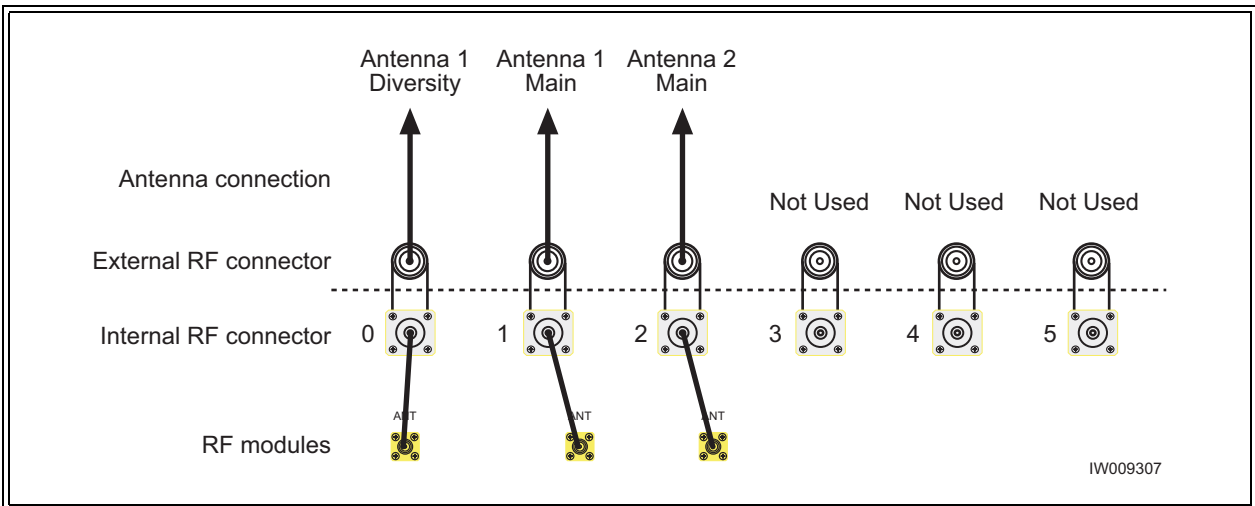

Figure 2-20 Antenna Cabling for O5 and O6 25W Configuration
- Connect your antennas as shown in Figure 2-20.